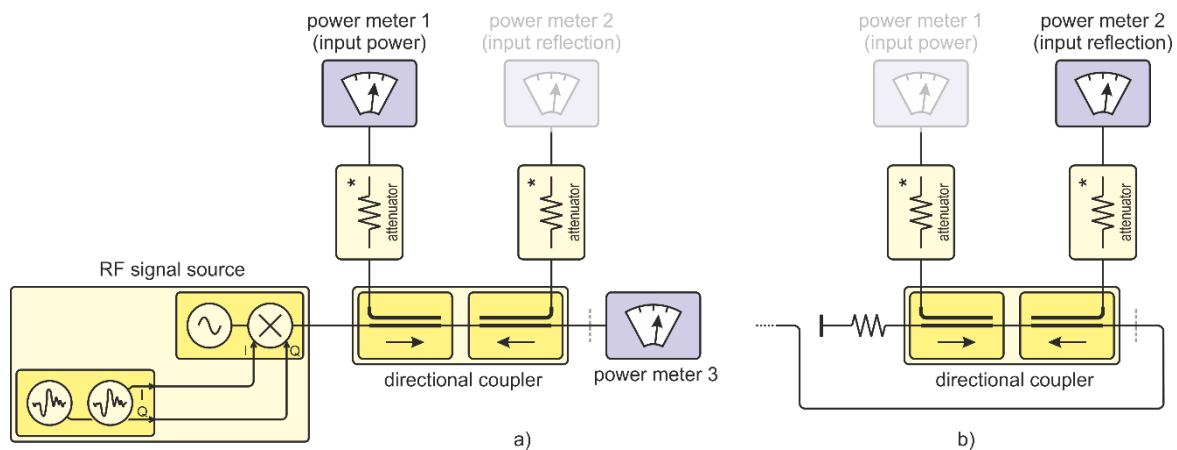

Figure 2: Characterization of the directional couplers
Step 1: By replacing the DUT's input by power meter 3, this power meter will show the correct forward going power which is made available to the DUT (Figure 2). Please note that this power differs from the source's output power due to cable losses and the coupler's main line insertion loss.